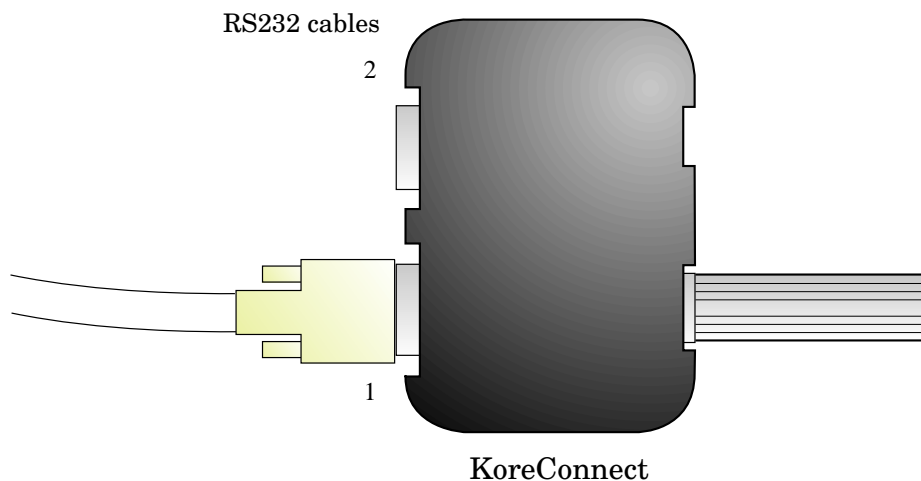

Figure 4.2: Connection when the robot is used with a KoreBot II.
- The KoreConnect should be connected to the host computer using a standard RS232 cable. in this mode, the cable has to be connected on the DB9 connector number 1 (see fig 4.2) You can easily purchase such a cable from your host computer dealer.